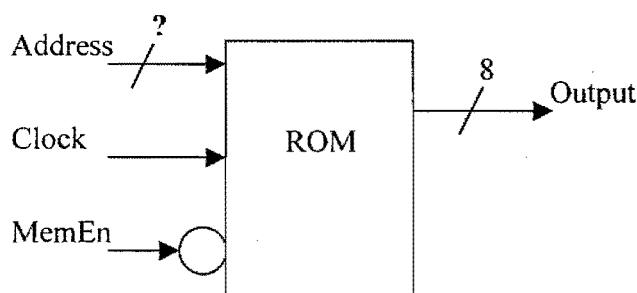

Figure 4.1
- c. *Figure 4.1* shows the block diagram of a basic ROM. If the size of the ROM is 2 MB, how many addressing pins should the ROM have?